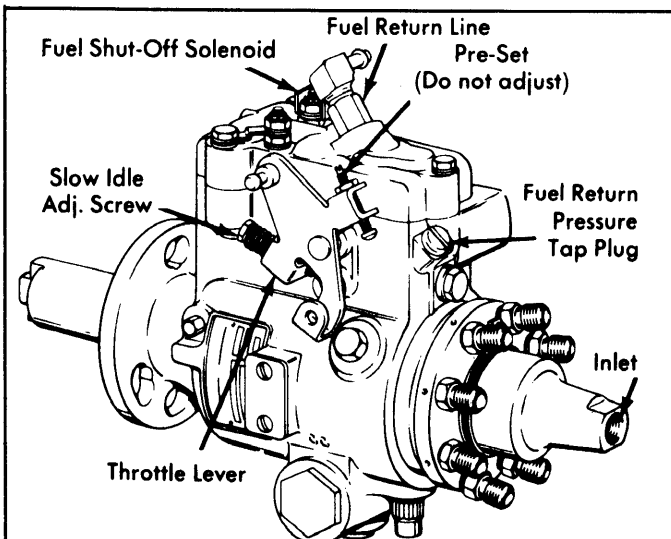

Fig. 3: Diesel Injection Pump Adjustment Locations
- 2) Adjust slow idle screw on injection pump to obtain 575 RPM. See Fig. 3. Automatic transmission should be in "D" (Drive) and A/C should be OFF.
- 1) Remove fuel return pressure tap plug. See Fig. 3.